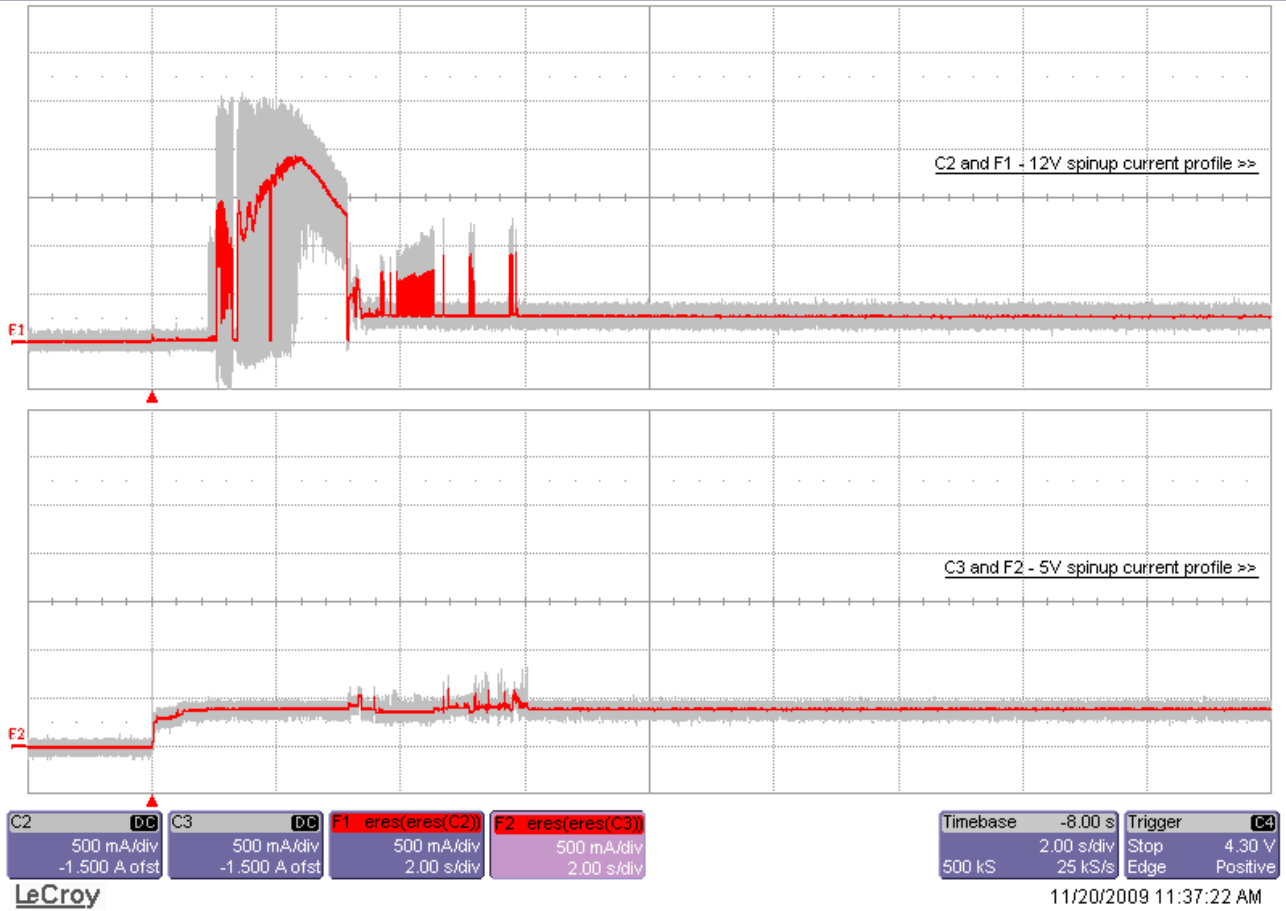

Figure 3. 500GB model current profiles
- [5] See +12V current profile in Figure 3.